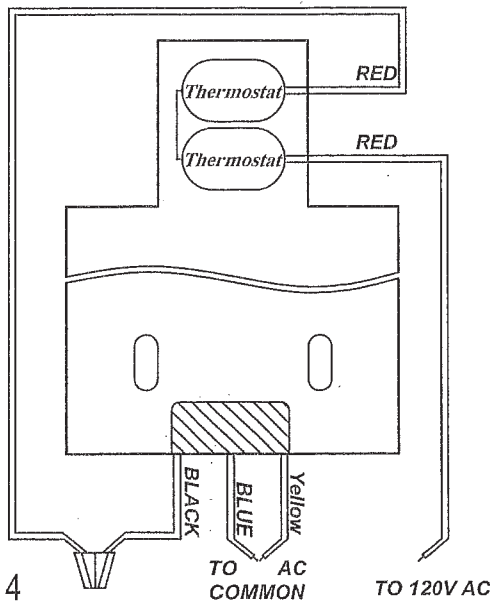

Figure 4
- Figure 4: 120V heater pad wiring diagram